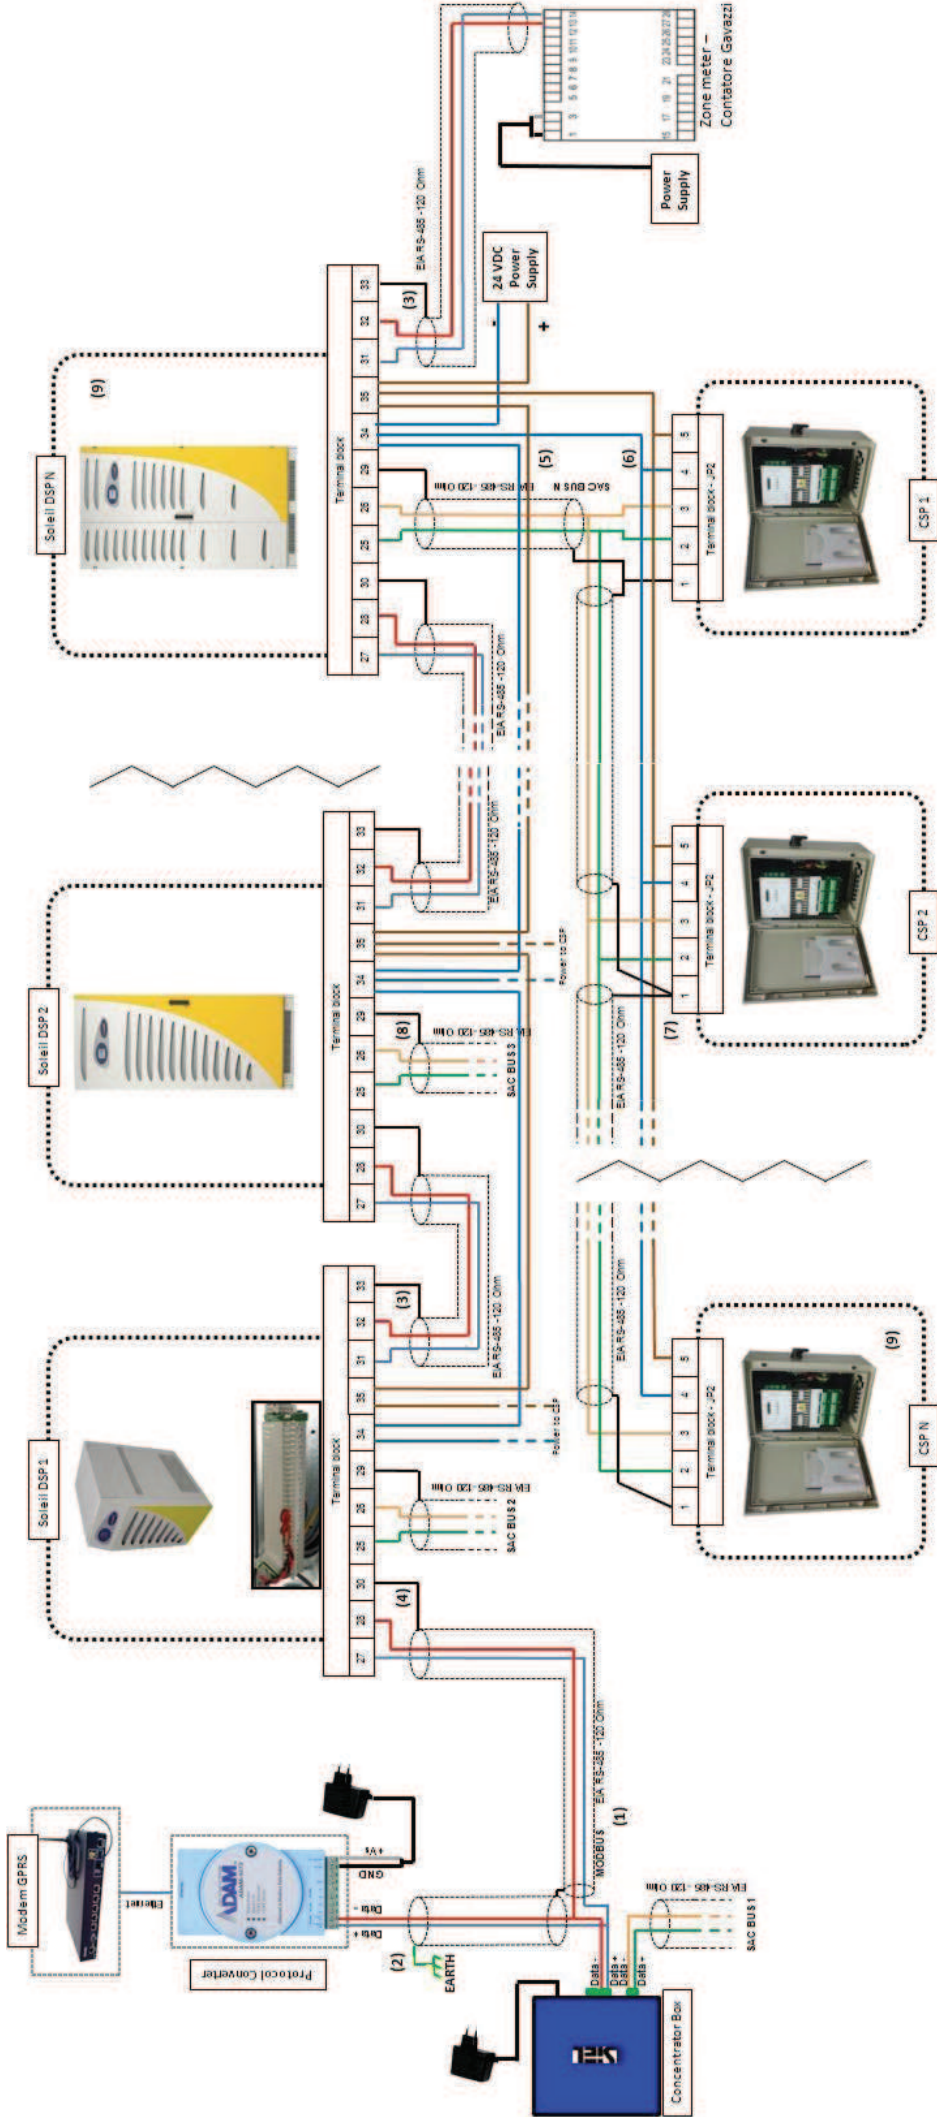

Figure 13 Communications wiring layout with 35 terminal Soleil DSP inverters
- The CSP units should be powered using a 230 VAC/24 VDC power supply (not provided). The maximum power consumption for each CSP unit is 70 mA, hence, the power supply should be scaled according to the number of CSP units to be powered from the same device. In the 35 terminal layout, the power supply cables are taken from terminals 34 and 35, as in Figure 13.
and Figure 13:
(4) Connect the screening of the MODBUS input cable to terminal 30 of the inverter.
(5) For the SAC BUS connection (between the Concentrator and its CSP-12 units), use a screened, twisted pair EIA-RS485 cable with typical impedance of 120 Ohm (e.g. Belden P/N 9841). The maximum length of the chain should not exceed 1,200 m.
(6) With reference to Figure 13, the CSP-12 power cables run between terminals 34 (-) and 35 (+) to terminals 4 and 5 respectively on the CSP-12 units.